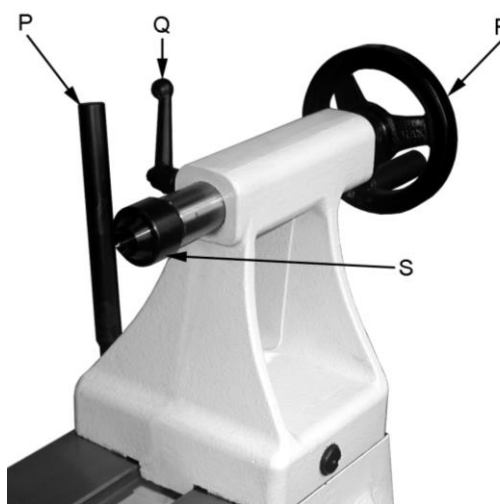

Fig 33
Turn the hand wheel (R, Fig 33) clockwise to move tailstock spindle forward. Lock tailstock spindle with the indexable knob (Q).